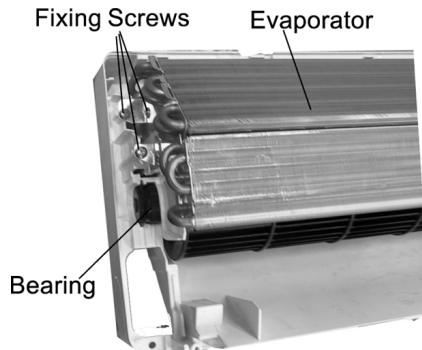

Fig 8
5. Release the bearing and the fixing screws on left side of the evaporator. (**Fig 8**)